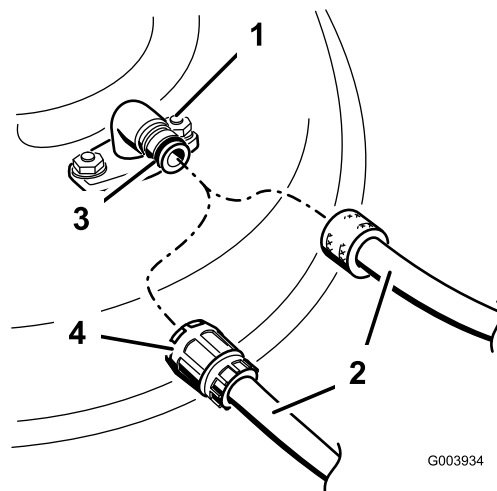

Figure 58
- Attach the hose coupling to the end of the mower washout fitting, and turn the water on high (Figure 58).